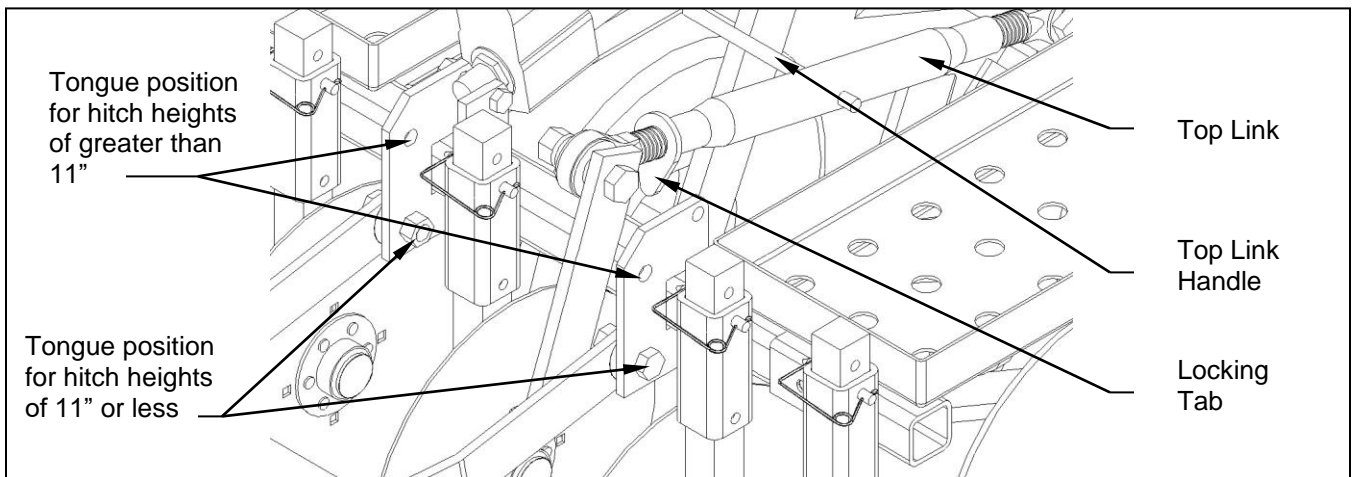

Figure 2. – Tongue Assembly and Adjustment
3. Measure the hitch height on your tow vehicle. For hitch heights of 11" or less use the lower tongue mounting holes. For hitch heights of greater than 11" use the upper tongue mounting holes. **(See Figure 2.)** The factory tongue setting is in the lower position. To reposition the tongue remove the provided 5/8" x 2" bolts, lock washers and nuts, align proper holes and reinstall and secure the bolts, lock washers and nuts.
- This leveling can be done by adjusting the top link. Unlock the locking tab on the top link. Turning the handle on the top link counter-clockwise will raise the rear end of the tool and clock-wise will lower the rear end of the tool. After adjustments are made, lock the top link in place. **(See Figure 2.)**